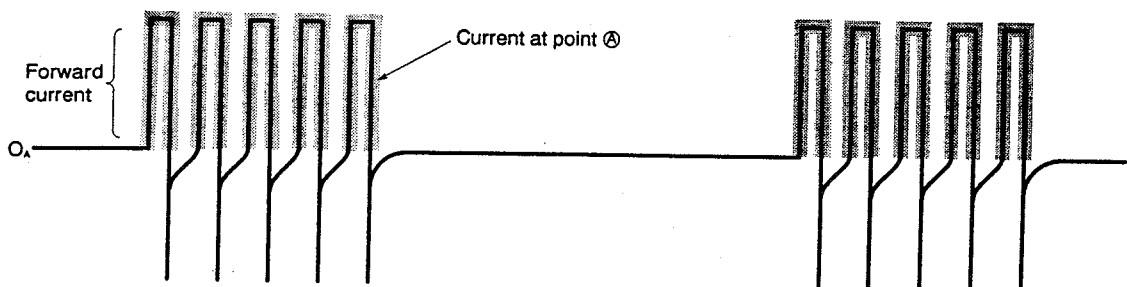

Fig. 7-2 Forward Current Waveform at Point A
- When pin ⑧ of HIC-1 goes "Hi" → "Lo", a photocoupler between PQ501 pins ① and ② turns on and current flows to terminal ④ → R501 → PQ501 → R504 → power module's Bu+ terminals → Eu+ terminals → D502 → D501 → terminal ⑤ and drives the upper arm transistors. (Fig. 7-2)
- As described in the rotor magnetic pole position detecting circuit, the upper arm drive circuit supplies current to the bases of the transistors on the power module's positive + side which turn on or off according to the position detection signals. The signals according to the position detection signals are output from pins ⑦, ⑧ and ⑨ of the micro computer and are input to pins ① of photocouplers PQ501-PQ503 via driver IC1.